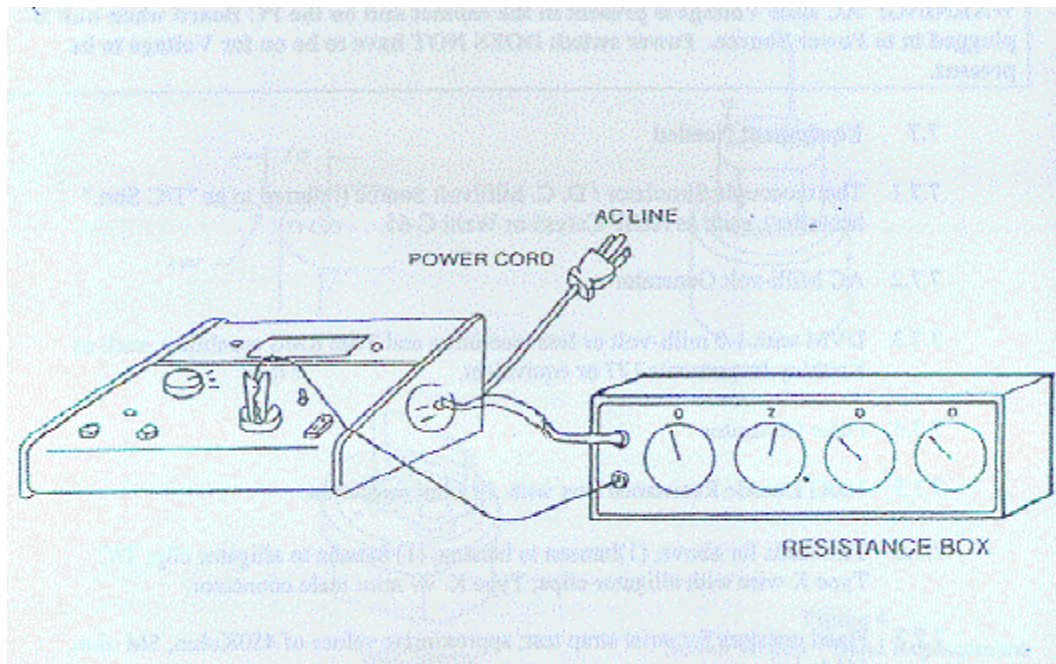

Figure 6. Ohms Calibration
## **7.12 Ohms Calibration – See Figure 6.**
**7.12.4** Connect the Decade Box as shown in Figure 6. For best results, solder a small piece of wire to the solder bead of the tip sensor and attach the alligator clip from the Decade Box to it.